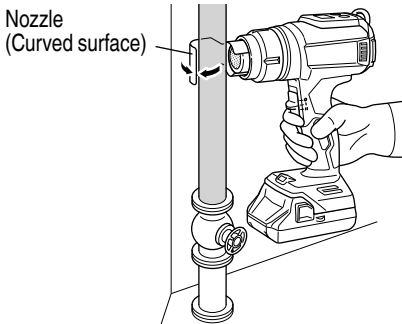

Fig. 17
- Defrosting water pipes (Fig. 17)